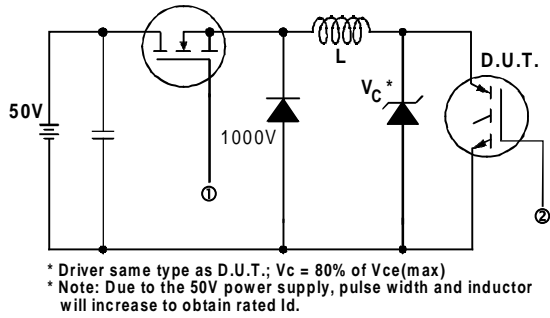

Fig. 13a - Clamped Inductive Load Test Circuit
- ② $V_{CC} = 80\%(V_{CES}), V_{GE} = 20V, L = 10\mu H, R_G = 50\Omega$, (See Fig. 13a)
- ③ Repetitive rating; pulse width limited by maximum junction temperature.
- ④ Pulse width $\leq 80\mu s$; duty factor $\leq 0.1\%$.
- ⑤ Pulse width $5.0\mu s$, single shot.